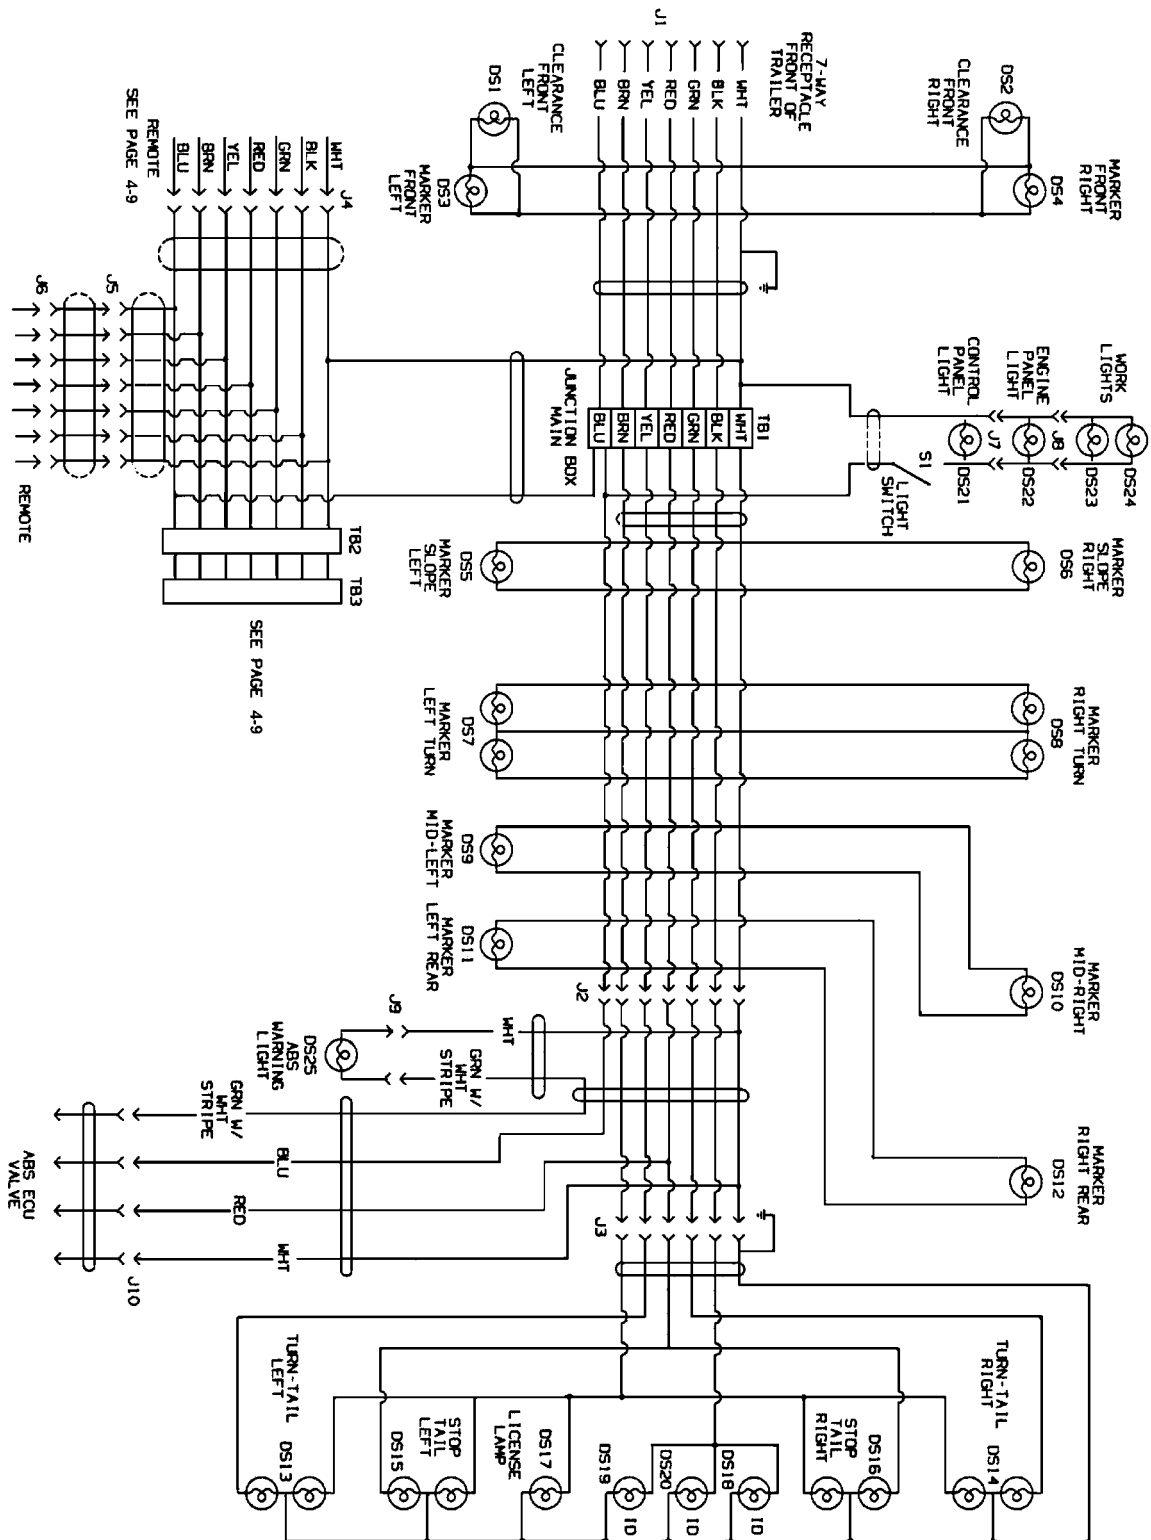

Figure 4-3 410/425/435 Wiring Diagram
**4-5.1** Maintenance of the electrical system consists of inspection and minor servicing. Any wire, connection or electrical component showing signs of corrosion, wear, breakage or unraveling must be repaired or replaced. (See Figures 4-3 and 4-4 for electrical wiring diagrams and Table 4-4 for wiring parts list)